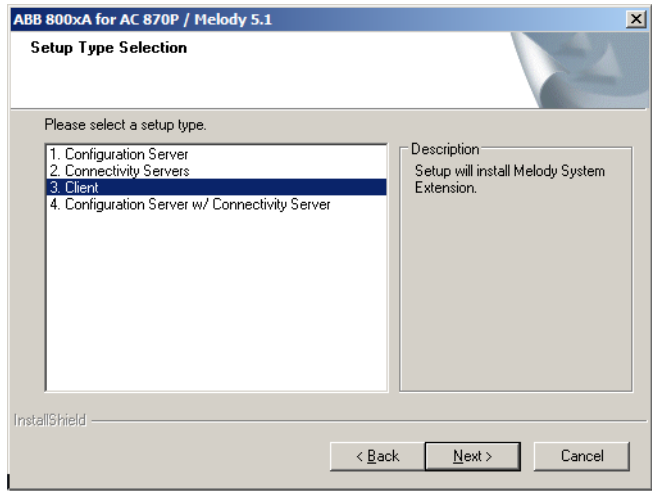

Figure 36. Setup Type Selection Dialog Box
3. Use the Setup Type Selection dialog box, Figure 36, to select the correct setup type based on the node type where the 800xA for AC 870P/Melody software is currently being installed. Refer to Table 9 for guidelines.